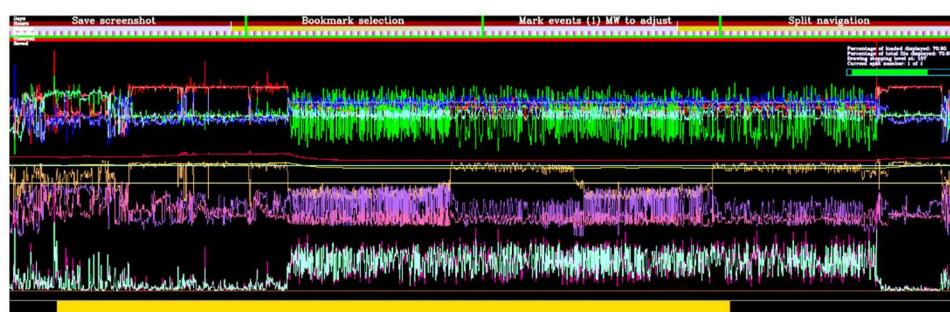

Figure 1.3 Main graphs window (2D)
**Load data** to display your first ‘split’ of data, Figure 1.3. A split is defined as either all of the data if the user is able to load all in one go, or a subset of the whole. A series of windows will now appear. The window named **drawing** will contain a series of graphs. **Drawing 2** is simply a second window to display the same, or other, data – think of it as more “floor space”.